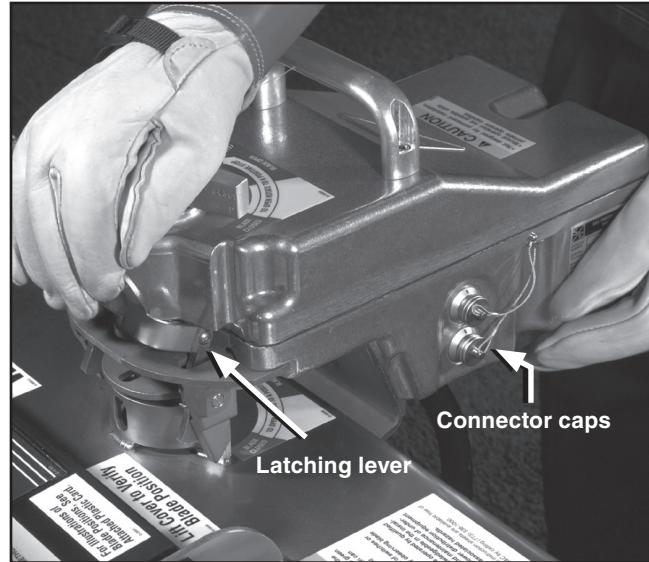

Figure 16. Removing the portable motor operator from the gear.
**STEP 13.** To remove the portable motor operator, hold the latching lever in the **Open** position and lift the portable motor operator up, off the operating shaft of the gear. See Figure 16.
**STEP 14.** Before storing the portable motor operator in its carrying case, be sure to replace the caps that protect the power and remote control connectors. The caps are shown in place in Figure 16.